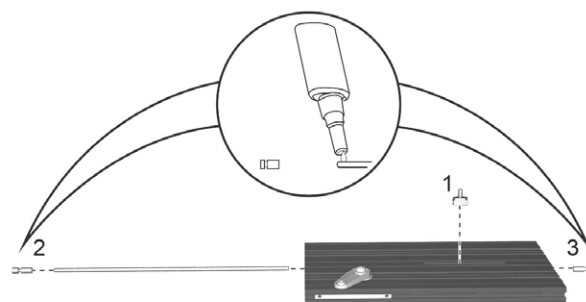

Figure 200. Apply thread locker.
1. Push the threaded rod into the backrest profile and at the same time screw on the driver (1). See fig. 200.
2. Apply thread locker (Loctite 2701) to the ends of the threaded rod and fit the two end pieces (2 & 3) onto the threaded rod. See fig. 200.